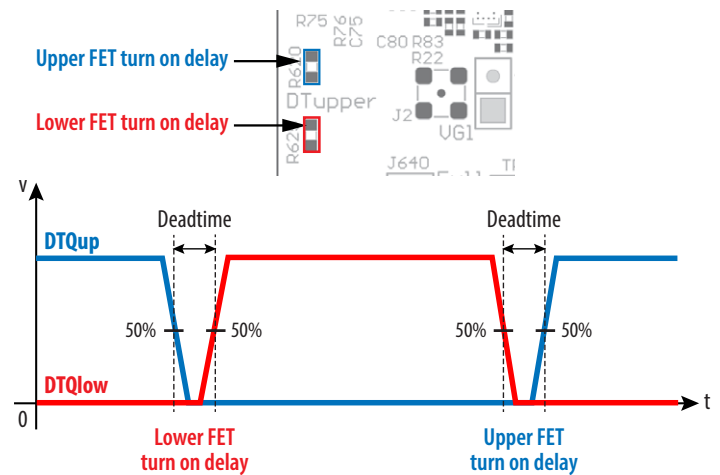

Figure 3: Definition of dead-time between the upper-FET gate signal (DTQup) and the lower-FET gate signal (DTQlow)
*Dead-time* is defined as the time between when one FET turns off and the other FET turns on, and for this board is referenced to the input of the gate driver. The dead-time can be set to a specific value where resistor R620 delays the turn on of the upper FET and resistor R625 delays the turn on of the lower FET as illustrated in figure 3.